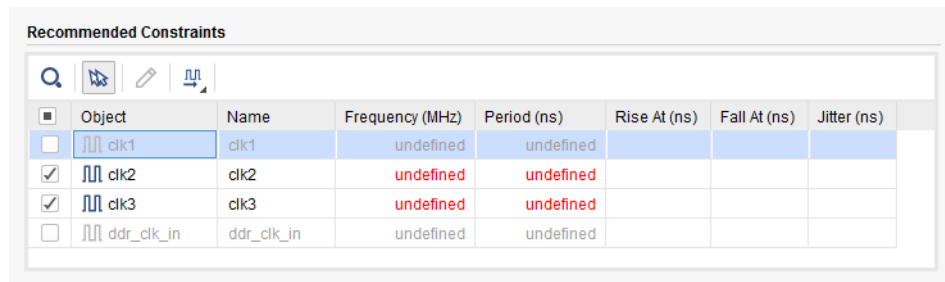

Figure 2-12: Creating and Skipping Recommended Constraints
In Figure 2-12, clk1 and ddr_clk_in are unchecked and will be skipped.
- Enter the missing values by clicking on the cells that show **undefined** (for example, the **Frequency** or **Period** value for clk2 and clk3 in Figure 2-12).